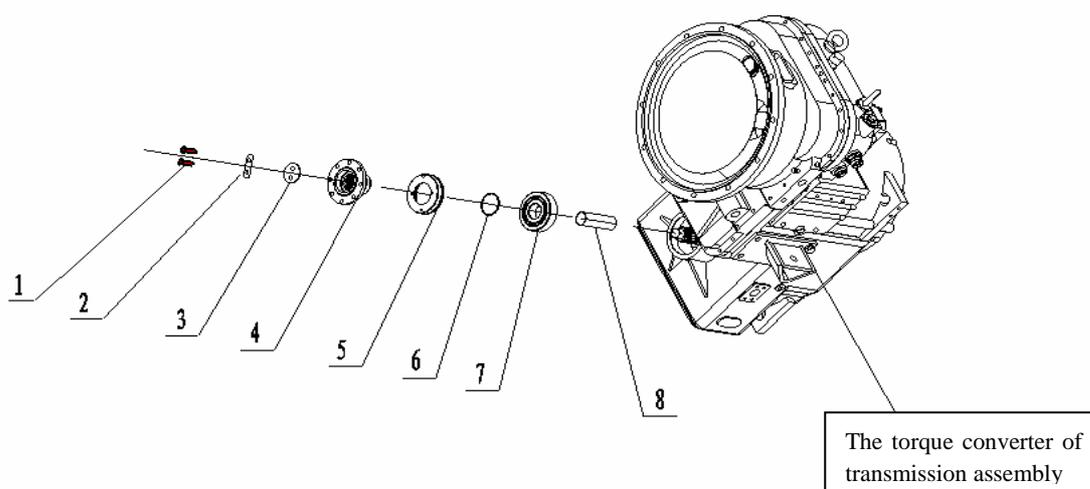

Figure 13
34. Assemble the output flange assembly (refer to the Figure 13)